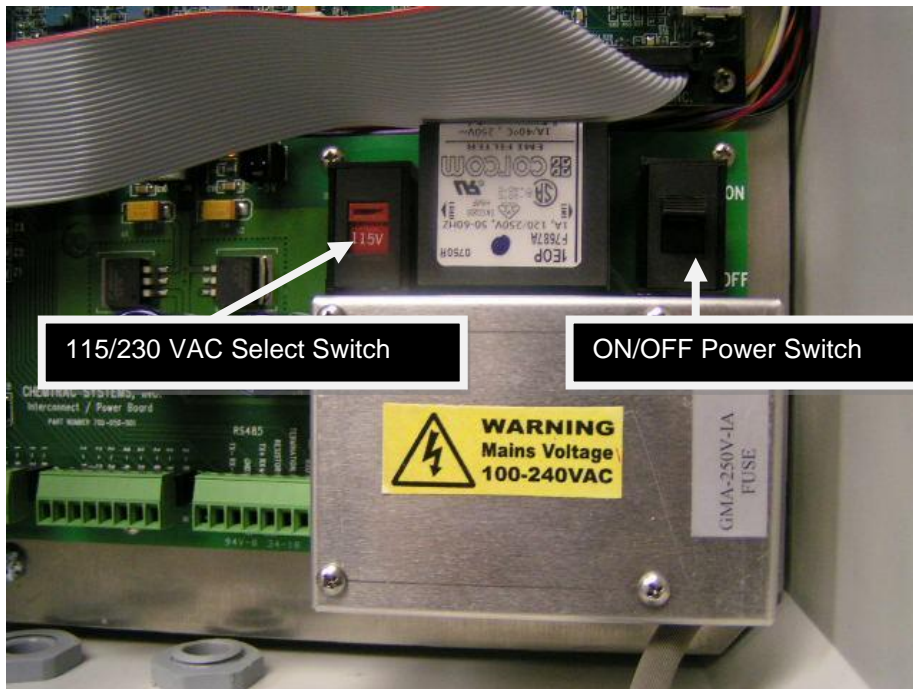

Figure 7 115/230V and Power Switches
- ❑ If using the original power cord supplied with your unit, make sure the proper AC voltage is set on the 115/230 VAC Select Switch. Once checked for proper AC power requirements, remove WARNING! Label to gain access to the power ON/OFF switch (see Figures 7 and 8).